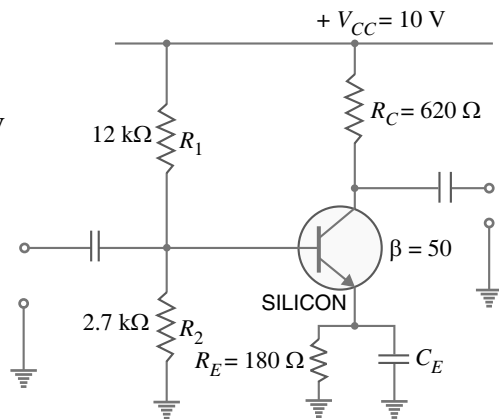

Fig. 7.43
**Example 7.36.** Determine whether or not the circuit shown in Fig. 7.43 is midpoint biased.